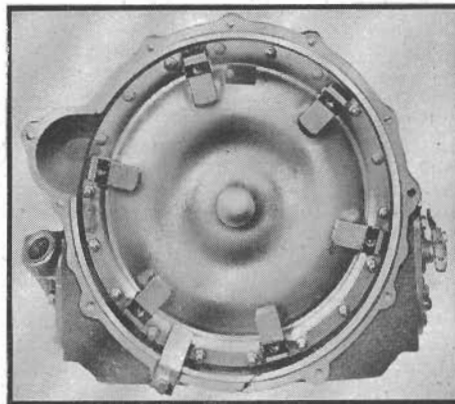

Fig. 74 Converter assembly holding tool. 1953-59
14. Install converter holding tool J-5384, Fig. 74, to converter housing.